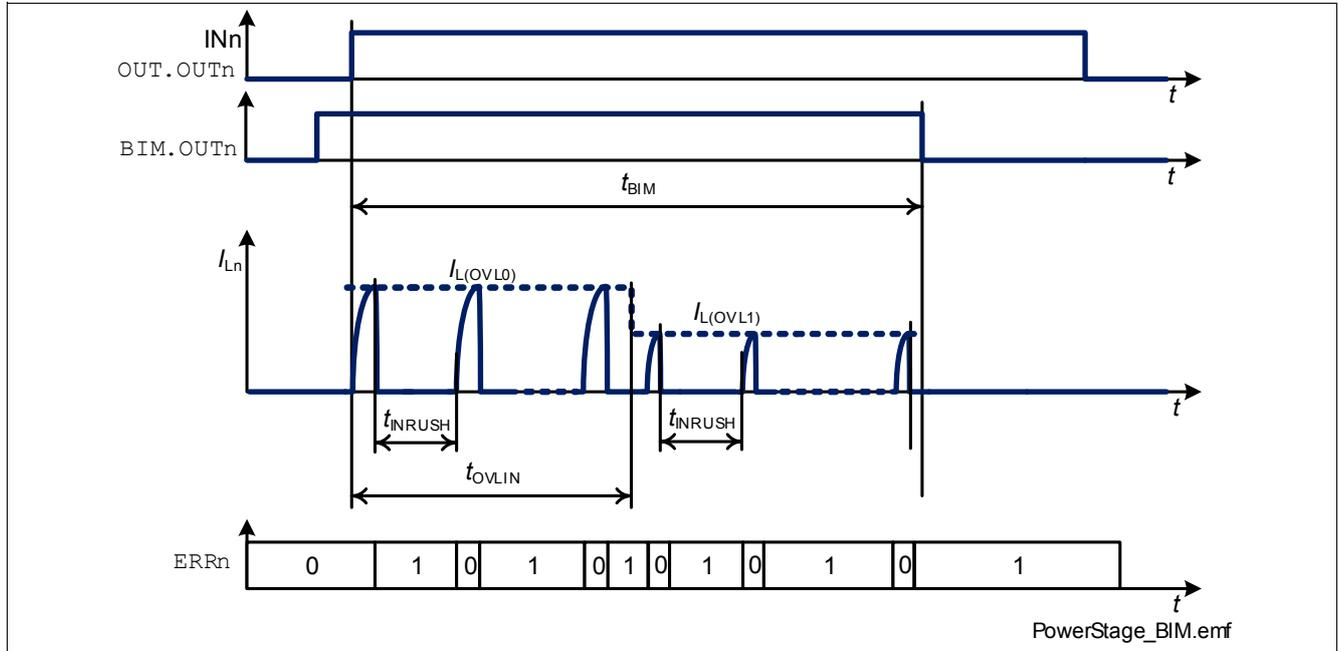
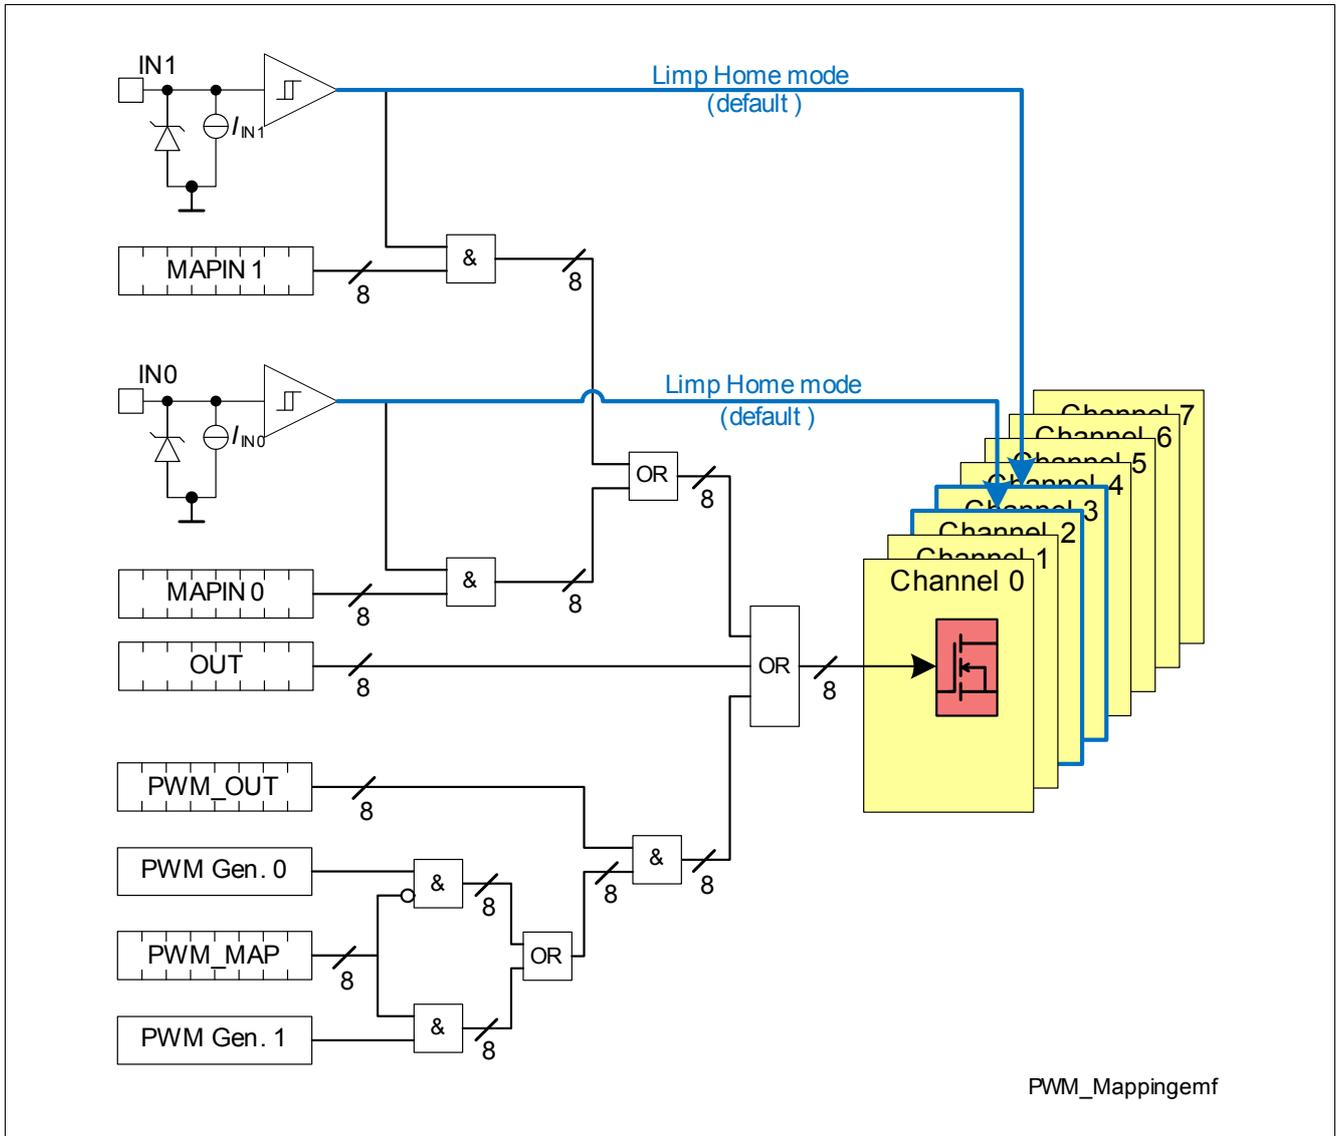

Figure 18 Bulb Inrush Mode (BIM) operation
Figure 19 PWM Generator Mappings
If the corresponding bit **BIM.OUTn** is set to “1”, in case the channel reaches the overload current threshold or the overtemperature threshold and latches OFF, it restarts automatically after a time  $t_{INRUSH}$ , allowing the load to go out of the inrush phase. A time diagram is shown in Figure 18. As shown, the counter starts when the channel is switched ON. Every channel switch OFF (independently from the entity controlling the channel - see Figure 19 for further details) resets the bit **BIM.OUTn** to “0”.
**Figure 19** expands the concept shown in **Figure 9** adding the PWM Generators.